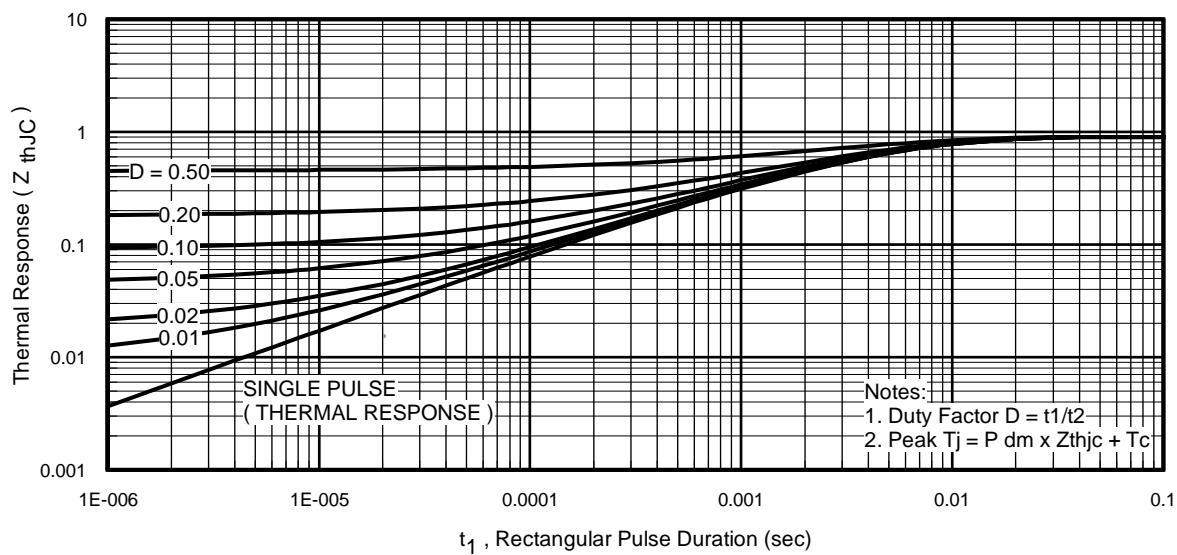
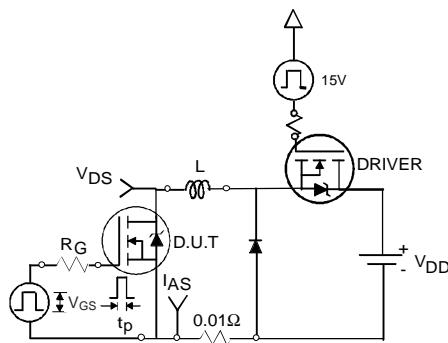

Fig 11. Maximum Effective Transient Thermal Impedance, Junction-to-Case
Fig 12a. Unclamped Inductive Test Circuit
- ① Repetitive rating; pulse width limited by max. junction temperature. (See fig. 11).
- ② Limited by $T_{J\max}$, starting $T_J = 25^\circ\text{C}$, $L = 0.12\text{mH}$, $R_G = 25\Omega$, $I_{AS} = 53\text{A}$, $V_{GS} = 10V$. Part not recommended for use above this value.
- ③ $I_{SD} \leq 53\text{A}$, $di/dt \leq 420\text{A}/\mu\text{s}$, $V_{DD} \leq V_{(\text{BR})\text{DSS}}$, $T_J \leq 175^\circ\text{C}$.
- ④ Pulse width $\leq 1.0\text{ms}$; duty cycle $\leq 2\%$.
- ⑤ $C_{oss \text{ eff.}}$ is a fixed capacitance that gives the same charging time as C_{oss} while V_{DS} is rising from 0 to 80% V_{DSS} .
- ⑥ Limited by $T_{J\max}$, see Fig.12a, 12b, 15, 16 for typical repetitive avalanche performance.
- ⑦ This value determined from sample failure population. 100% tested to this value in production.
- ⑧ This is applied to D²Pak, when mounted on 1" square PCB (FR-4 or G-10 Material). For recommended footprint and soldering techniques refer to application note #AN-994.
3. Equation below based on circuit and waveforms shown in Figures 12a, 12b.
- $Z_{thJC}(D, t_{av})$ = Transient thermal resistance, see figure 11)